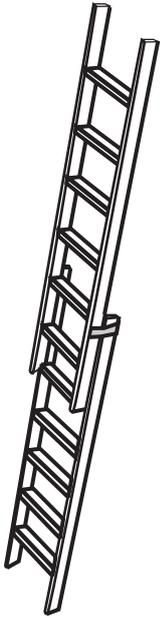

Fig. 16
- 6 **Fig. 16** shows an extendable aluminium ladder aimed at the do it yourself (DIY) market.
(d) Computer aided design (CAD) and Computer aided manufacturing (CAM) and other ICT systems are employed in the design and manufacture of the ladder shown in **Fig. 16** on page 29.
(i) Outline **three** different specific ways in which CAD may have been employed in the design of the ladder shown in **Fig. 16** on page 29. [3 marks]
(ii) Outline **two** different ways in which other ICT systems may have been employed in the design and manufacture of the ladder shown in **Fig. 16** on page 29. [2 marks]